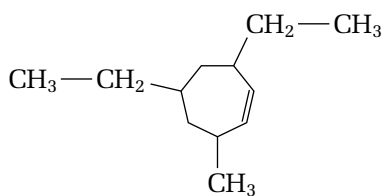

Figure 13.33 Can you name this cycloalkene?
- Write the suffix -ene for cycloalkenes or -yne for cycloalkynes. (See Figure 13.33 for practice.)